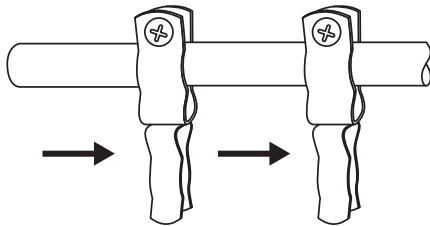

Fig. 5. Slide on Hardware.
1. Measure and cut tubing to length then slide on conduit/lamp clamps (Fig. 5.), do not fully tighten bolts yet.